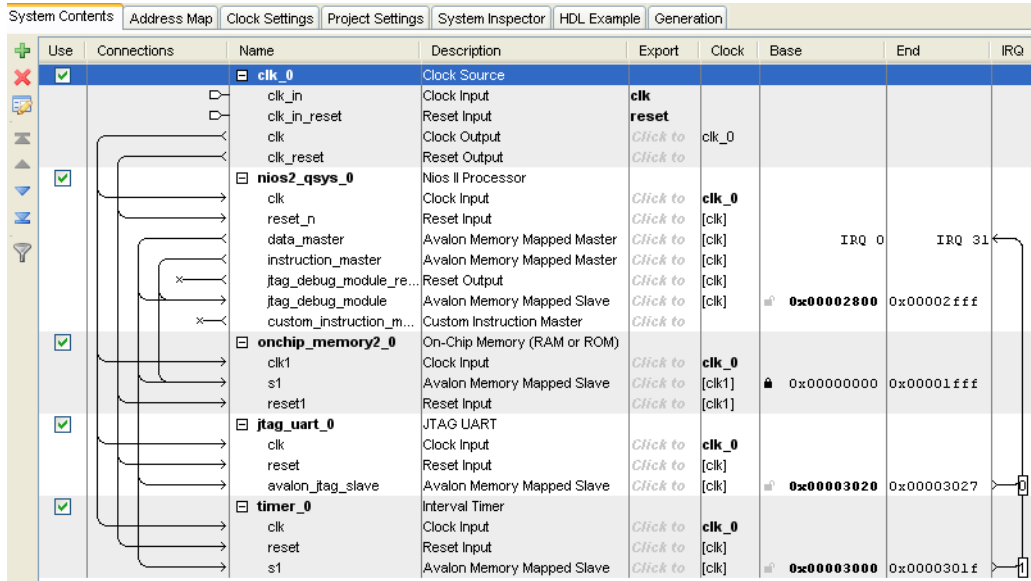

Figure 5. The Nios II system implemented by the Qsys Tool on an FPGA chip.
4. From the System menu, select Assign Interrupt Numbers, which will assign IRQ 0 to the JTAG UART and IRQ 1 to the timer. You should now have the system shown in Figure 5.